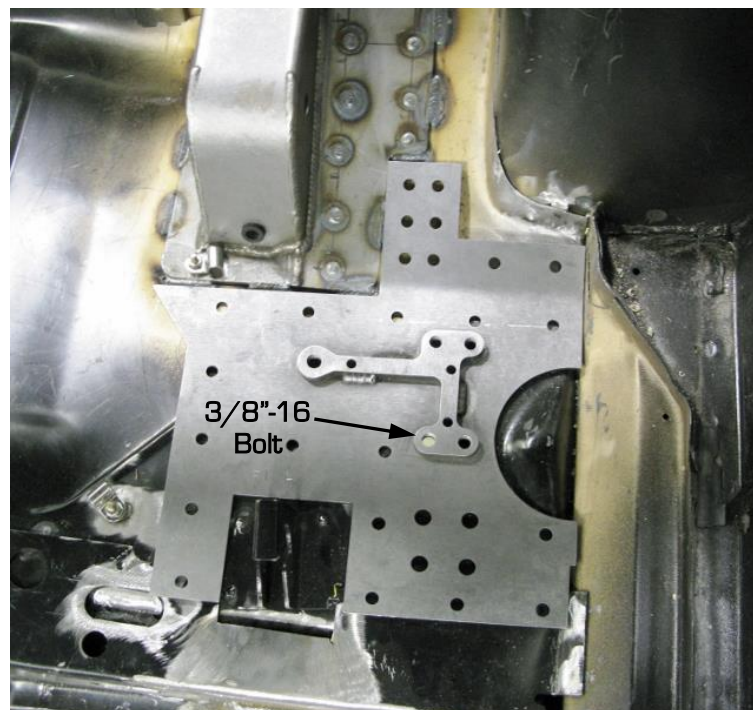

Figure 6 – Position Leaf Spring Floor Doubler
16. Position the DSE leaf spring pocket floor doubler on the top side of the floor inside the vehicle, above the leaf spring pocket assembly. Install one of the provided 3/8"-16 x 1" L hex head bolt through the pocket assembly into the floor doubler where there already is a hole in the floor pan from the factory. (Figure 6).